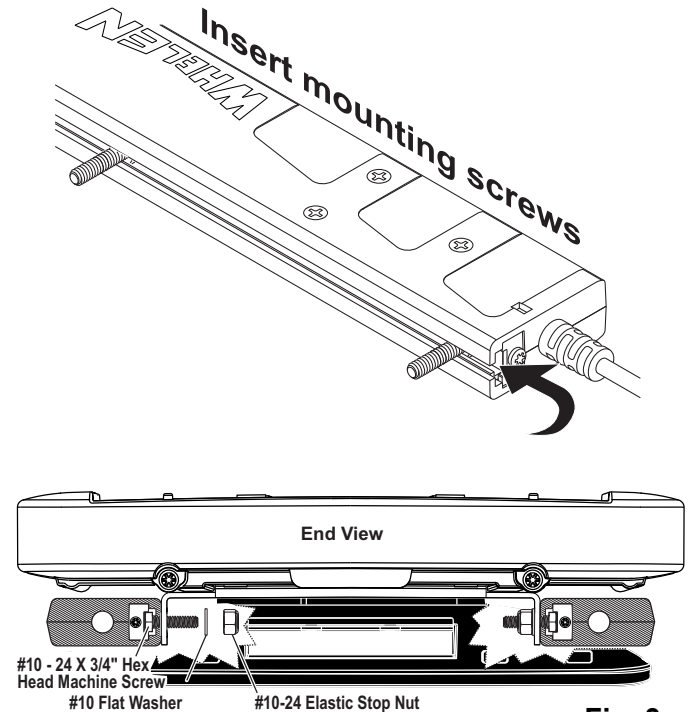

Fig. 3
2. Mount the lightbar(s) to the brackets using the supplied mounting hardware (Fig. 3).